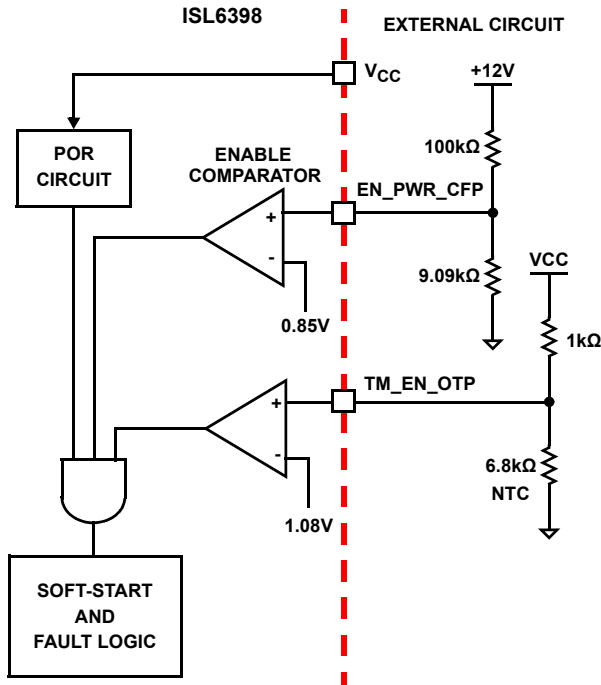

FIGURE 14. POWER SEQUENCING USING THRESHOLD-SENSITIVE ENABLE (EN) FUNCTION
2. The ISL6398 features an enable input (EN_PWR_CFP) for power sequencing between the controller bias voltage and another voltage rail. The enable comparator holds the ISL6398 in shutdown until the voltage at EN_PWR_CFP rises above 0.85V. The enable comparator has about 100mV of hysteresis to prevent bounce. It is important that the drivers reach their POR level before the ISL6398 becomes enabled. The schematic in Figure 14 demonstrates sequencing the ISL6398 with ISL99140 DrMOS and the ISL66xx family of Intersil MOSFET drivers.